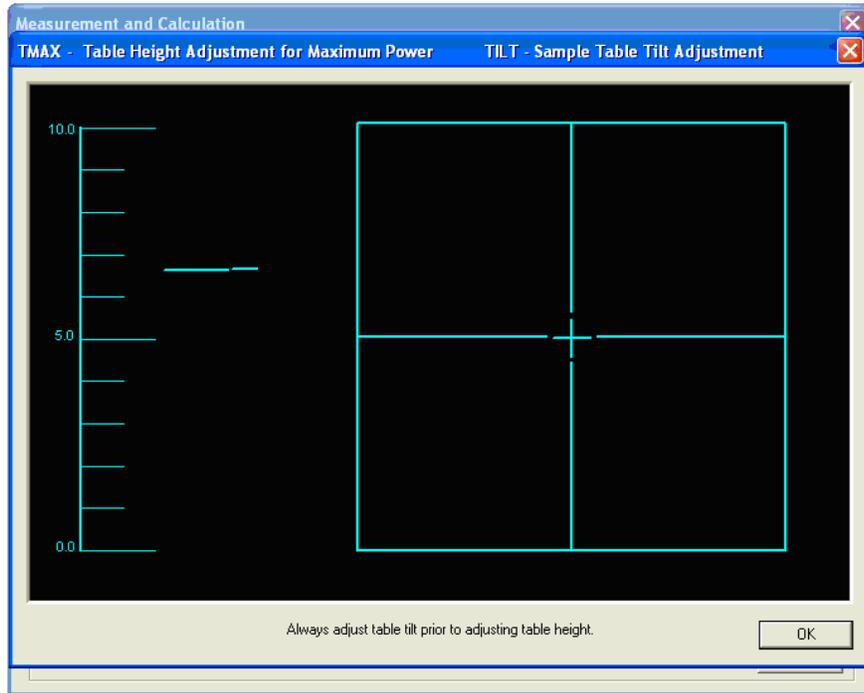

Figure 11.3 - Sample Stage Alignment Window
- 9.2.5 Click the **Adjust Sample Table** button on the left lower corner of the Measurement and calculation screen. A new window will pop out to assist you, see Figure 11.3.